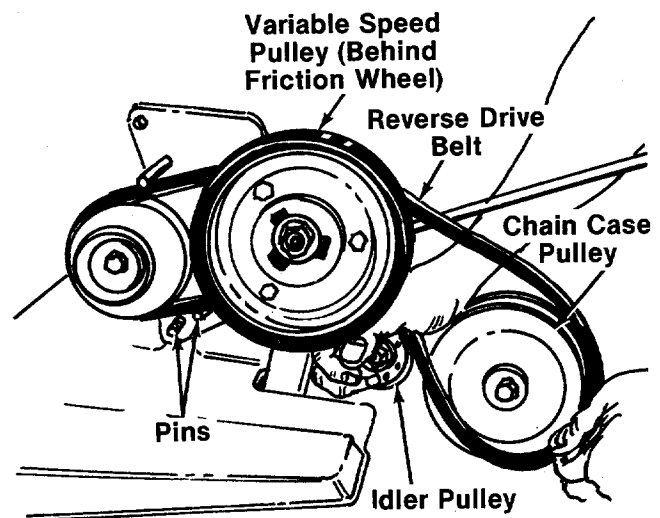

FIGURE 19.
2. Push forward on the idler. Lift belt off the chain case pulley, idler pulley and variable speed pulley. See figure 19.
Replace belts in reverse order. Be certain forward drive belt is inside the guide pins as shown in figure 19.